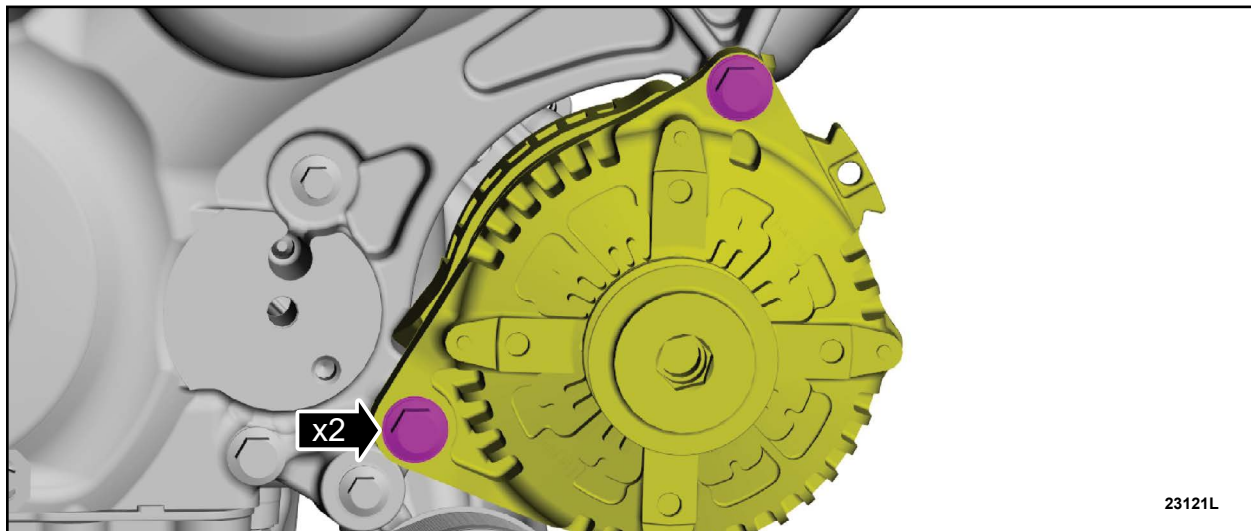

FIGURE 22
37. Position the generator and install the bolts. See Figure 22.